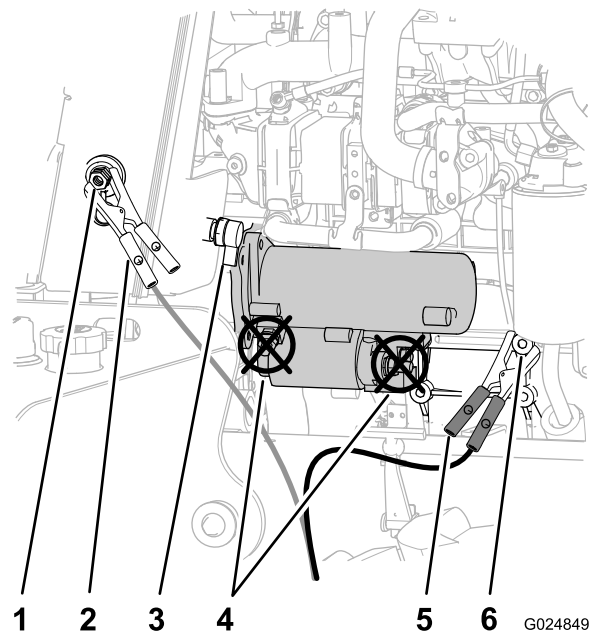

Figure 83
4. Remove the cover from the jump post (Figure 83).
5. Connect the positive (+) jumper cable to the jump post (Figure 83).
6. Connect the negative (-) jumper cable to a ground point, such as the nut at the pivot point for the alternator (Figure 83).